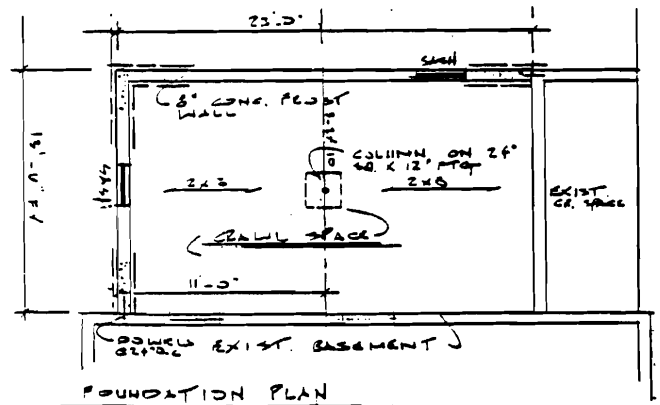

Figure 2. Typical Foundation Plan
- For new construction, structural alterations, or additions, plans showing structural details must be provided. Minimally they should include foundation plans, including drainage and support column spacing framing details, floor plans and a cross section. (See Figures 2, 3 & 4)